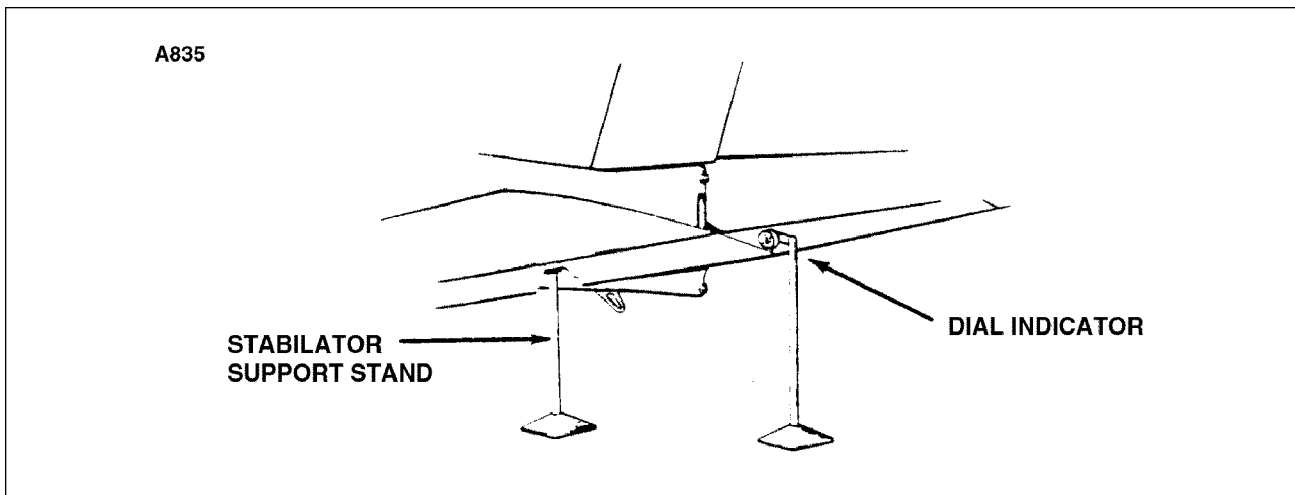

Figure 4-7d. Checking Stabilator Free Play
- B. Stabilator Trim Tab: Set the stabilator trim tab in neutral position. This neutral position is determined with the airplane properly rigged per instructions given in this section of the service manual; the control wheel in its neutral position per Table V-I, and the trim indicator at its neutral position. Place a support under the stabilator spar to prevent movement. (Refer to Figure 4-7d.) Obtain a straightedge long enough to extend from the ground up to a few inches above the trim tab trailing edge. Place the straightedge next to the trim tab inboard (center) trailing edge and grasping the tab, gently move it up and down, without moving the stabilator, mark the limits of the tab free play on the straightedge. The overall travel (free play) must not exceed .076 of an inch. The use of a dial indicator and fixed stand is recommended. (Refer to Figure 4-7d.)